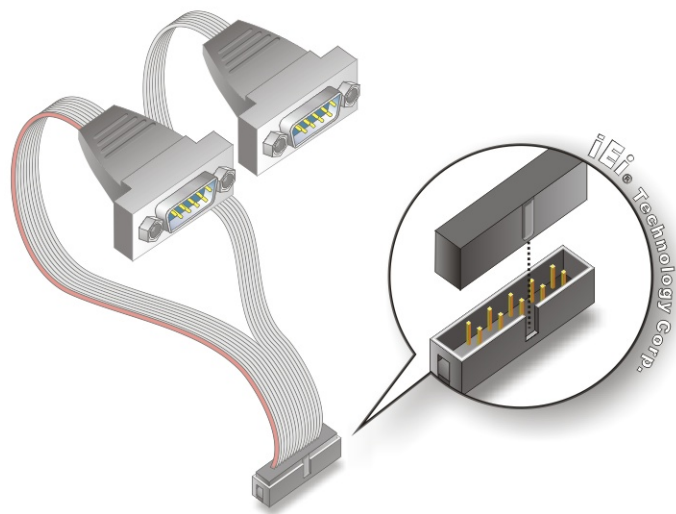

Figure 5-17: Dual Serial Port Connector Cable Connection
- Step 3: Insert the cable connectors.** Once the cable connector is properly aligned with the COM2 serial port connector on the IMBA-9454ISA, connect the cable connector to the onboard connectors. See Figure 5-17.